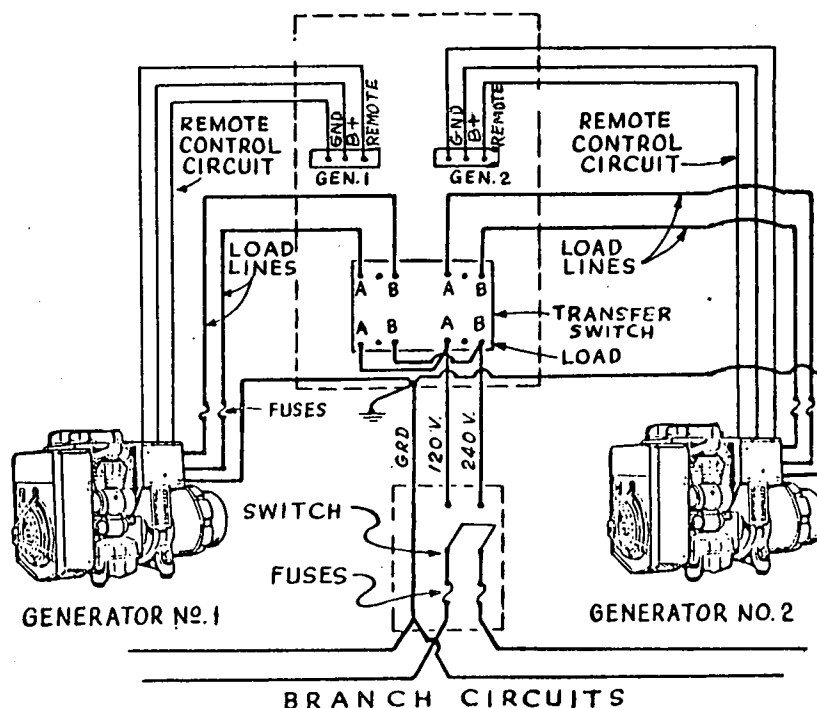

FIGURE 3. LOAD AND CONTROL CIRCUIT CONNECTIONS
2. Connect generator wires to transfer switch, observing the color code and proper terminal designations (Figure 3). The switch is marked "GEN 1" and "GEN 2." Terminals for each generator connection are marked "A", "B", etc. If more than one voltage is involved, make all connections of equal voltage to terminals with the same letter marking. For example: All 120-volt lines should be connected to terminals marked "A."